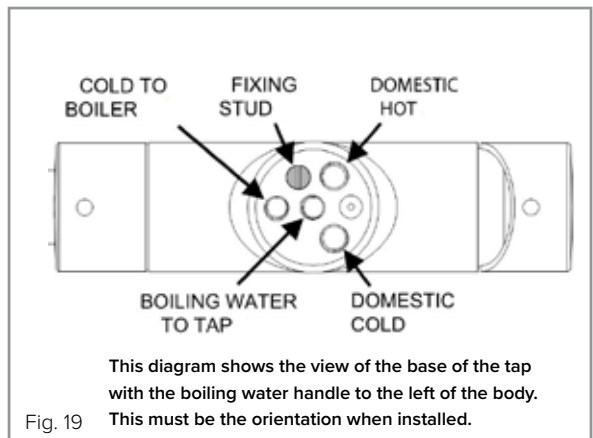

Fig. 19
1. Screw the fixing stud (A8) into base of tap (A1) as shown in Fig. 19.
3. Hand tighten the domestic hot flexi hose (B6) into the position as marked in Fig. 19.
4. Hand tighten the domestic cold flexi hose (B1) as shown in Fig. 19.
5. Hand tighten the cold out flexi hose (C1) as shown in Fig. 19.
6. Hand tighten the 110°C rated hot flexi hose (D1) into the centre inlet as shown in Fig. 19.